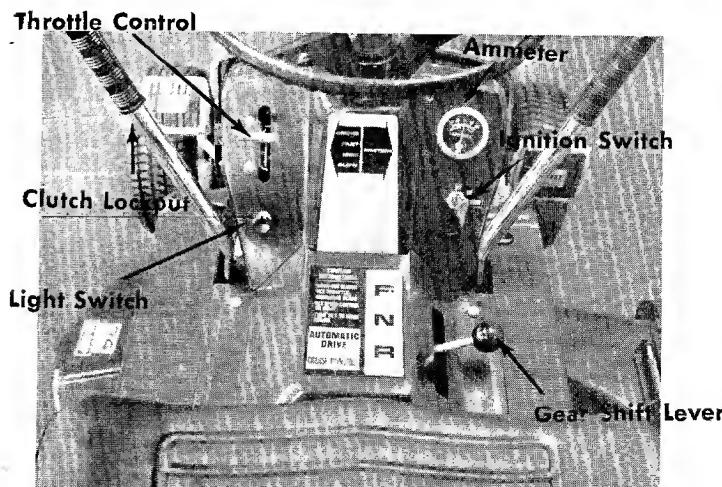

FIGURE 7. CONTROLS
- a. **Throttle Control.** The throttle control is used to regulate the engine speed and choke the engine. The engine should be operated from $\frac{3}{4}$ to full throttle when operating the cutting deck or snow thrower (optional). See figure 7.
- b. **Gear Shift Lever.** The gear shift lever is used to shift into one of four **Forward Gears**, NEUTRAL or REVERSE. See figures 7 and 8.
h. **Ammeter. (Electric Start Model Only)** The ammeter registers the rate of battery charge or discharge. The ammeter should register on the plus side (+) when the engine is running the fast position until the battery is completely charged. With a fully charged battery or with the engine idling the ammeter will not show a charge. See figure 7.
i. **Light Switch. (Electric Start Only)** Pull the light switch out to turn on the lights. The lights will only operate when the engine is running. See figure 7.
Electric Start. See figure 7. Turn the key to the START position to start the engine. When the engine is running, let the key return to the ON position. To stop the engine, turn the key to the left to the OFF position and remove it to prevent accidental starting.
Step 4. Set the throttle control in the CHOKE position. See figure 7.